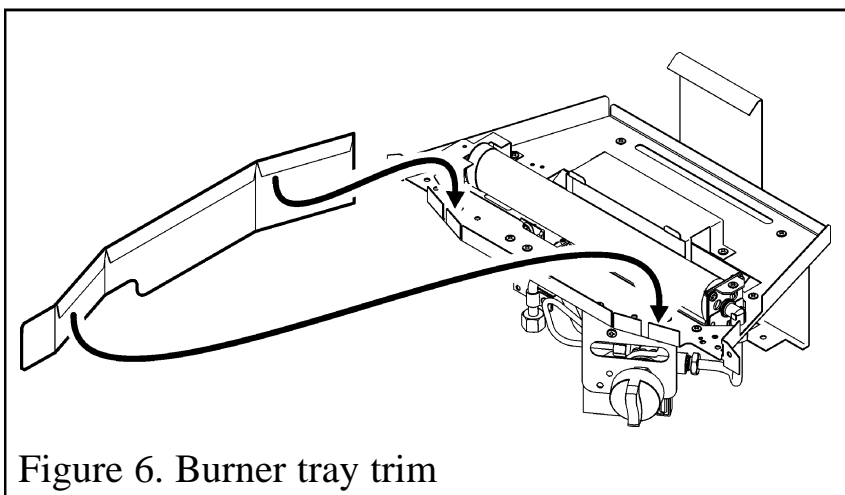

Figure 6. Burner tray trim
- The fire is supplied with a burner tray trim. Fit the trim as in figure 6.